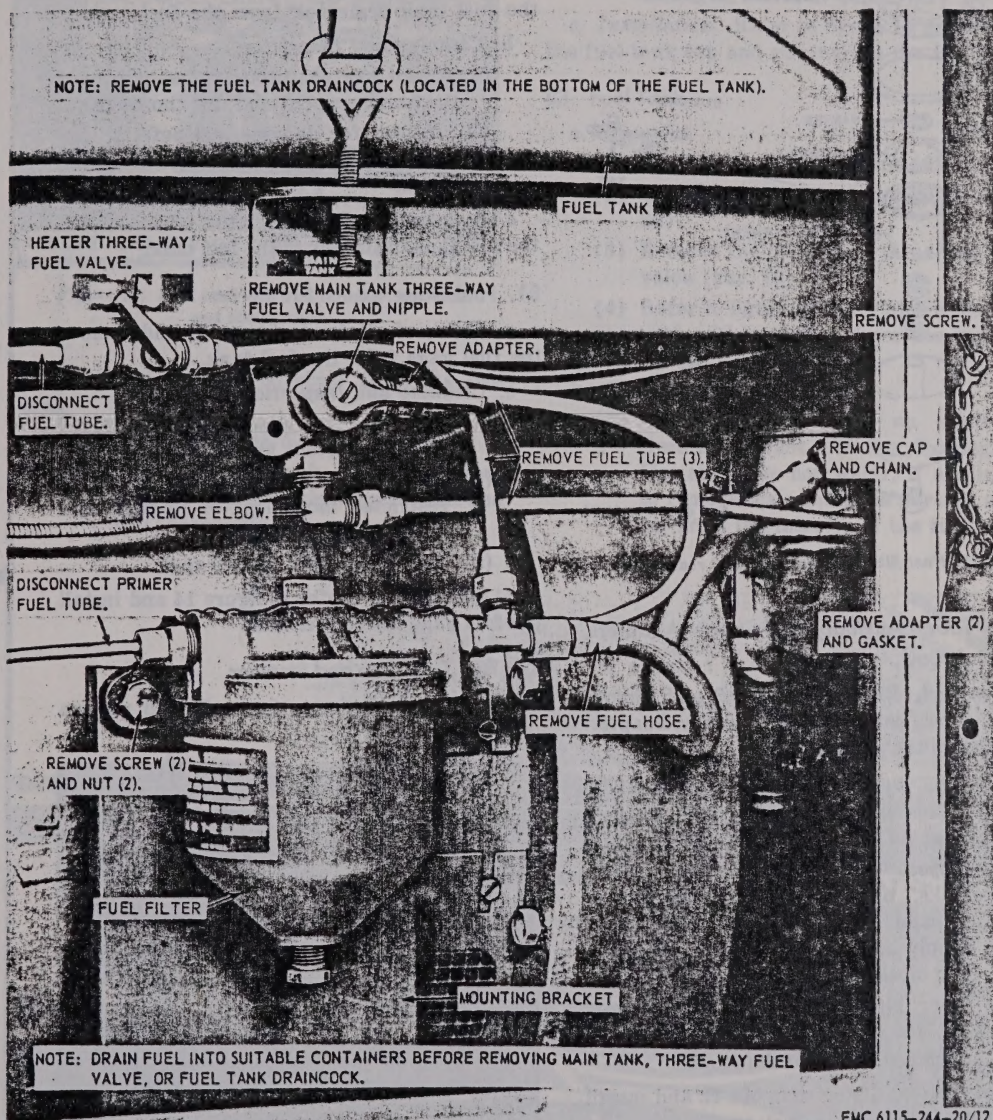

Figure 12. Fuel filter, main tank and heater three-way fuel valves, fuel tank draincock, and auxiliary fuel supply adapters and cap, removal and installation.
- (1) Place the main tank, three way fuel valve in the OFF position (TM 5-6115-244-10).
- (2) Refer to figure 12 and remove the fuel filter from the mounting bracket.
e. Installation. Refer to figure 12 and install the fuel filter on the mounting bracket.
a. Removal. Refer to figure 12 and remove the heater three-way fuel valve from the fuel tubes.
- (1) Clean the valve with an approved cleaning solvent and dry thoroughly.
- (2) Inspect the valve for damage and defects. Replace a damaged or defective valve.
c. *Installation.* Refer to figure 12 and install the heater three-way fuel valve between the fuel tubes.
a. *Removal.* Refer to figure 12 and remove the main tank three-way fuel valve from the fuel tank.
- (2) Inspect for damage and defects. Replace a damaged or defective valve.
c. *Installation.* Refer to figure 12 and install the main tank three-way fuel valve in the fuel tank.
a. *Removal.* Refer to figure 12 and remove the fuel tubes, auxiliary fuel supply adapter, and cap from the generator set.
- (1) Clean all parts with an approved cleaning solvent and dry thoroughly.
- (2) Inspect the fuel tubes for cracks, kinks, blocked passages, and other damage. Inspect the auxiliary fuel supply adapters and caps for damage and blocked passages.
- (3) Clear blocked passages and reclean. Replace all parts that are excessively damaged, worn, or defective.
c. *Installation.* Refer to figure 12 and install the fuel tubes, auxiliary fuel supply adapters, and cap on the generator set.
a. *Removal.* Refer to figure 12 and remove the fuel tank draincock from the fuel tank.
- (1) Clean the draincock in an approved cleaning solvent and dry thoroughly.
- (2) Inspect for damage and defects. Replace a damaged or defective draincock.
c. *Installation.* Refer to figure 12 and install the fuel tank draincock in the fuel tank.